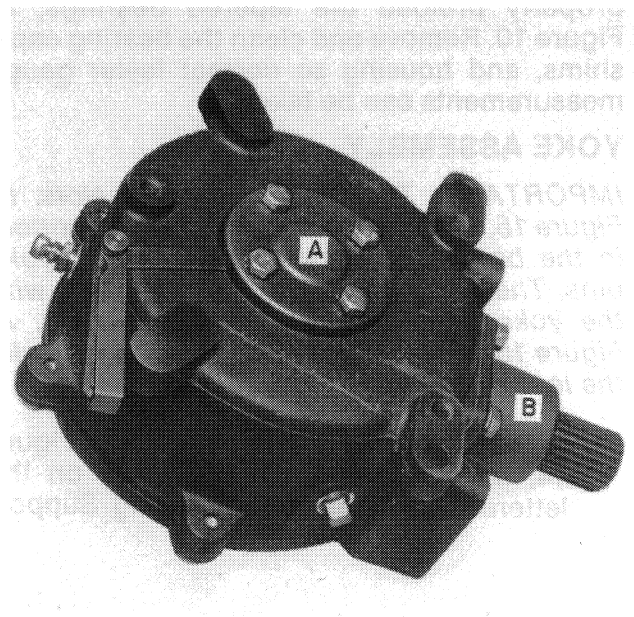

FIGURE 19
- Install the bearing housing, B, Figure 19, using a new gasket, and tighten the hardware to 18 ft. lbs. (24.4 N·m). Put Permatex sealer on the bolts.
- Without shims, draw bearing cap, A, Figure 19, down evenly finger tight. Tap lightly to move the shaft as the cap hardware is tightened. This will shift the eccentric shaft toward the side cover as far as it will go.
11. Measure the space between the bearing cap and the wobble box housing as shown in Figure 19. Check the clearance in three or four locations around the bearing cap.
12. Remove bearing cap, A, Figure 19, and install bearing cap, B, Figure 22, without shims. Draw it up snugly using the method detailed in step 10. Be sure the bolts are not drawn tighter than the bolts in step 10. After cap, B, Figure 22, is drawn up, reinstall cap, A, Figure 19, and tighten it as detailed in step 10. At this time, both bearing caps are installed and the yoke assembly is pushed as far away from the cover as it will go.
Measure the distance between bearing cap, A, Figure 19, and the housing. Record at reference 2, Figure 20.
15. Add reference 1 to reference 4 to determine the shim pack required for bearing cap, A, Figure 19. Record this at reference 5. Install the reference 5 shim pack under bearing cap, A, Figure 19, and tighten the hardware to 18 ft. lbs. (24.4 N·m). Apply Permatex sealer to each bolt.
NOTE: Bearing cap, B, Figure 22, must be removed before the shim pack and cap, A, Figure 19, are installed and tightened.
The part numbers of shims for cap, A, Figure 19, are:
1. Remove the four cap screws holding bearing housing, B, Figure 19.